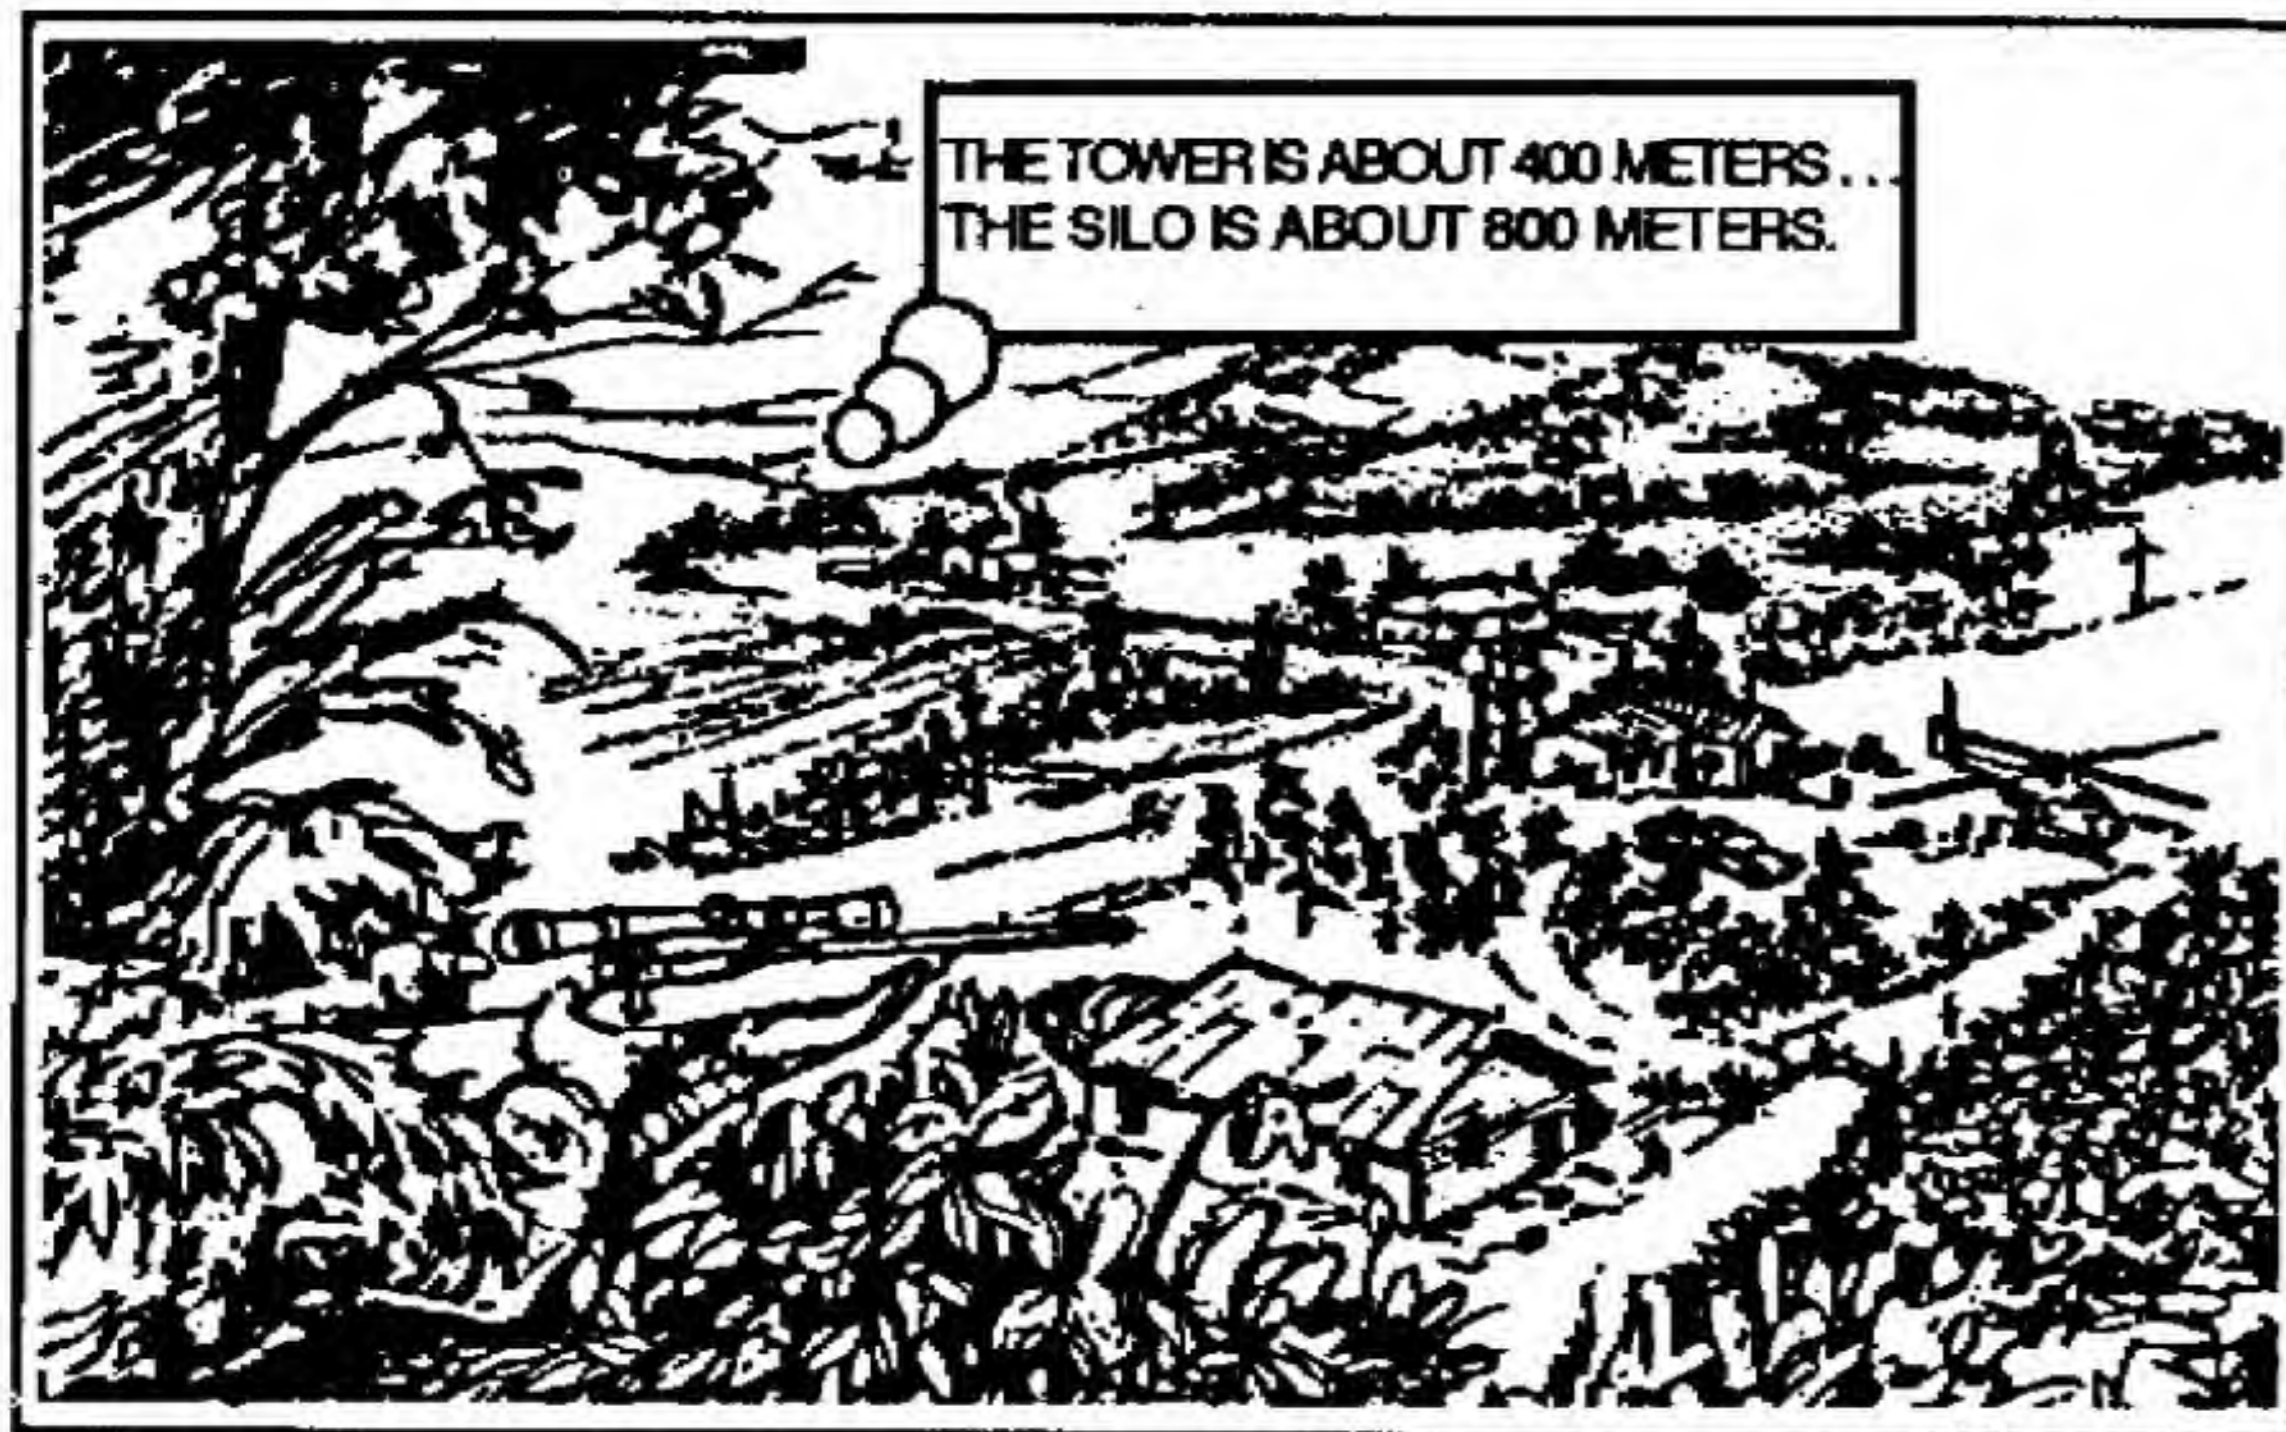

Figure 4-18. 100-meter-unit-of-measure method.
b. **100-Meter-Unit-of-Measure Method.** To use this method (Figure 4-18, page 4-38), the sniper team must be able to visualize a distance of 100 meters on the ground. For ranges up to 500 meters, the team determines the number of 100-meter increments between the two objects it wishes to measure. Beyond 500 meters, it must select a point